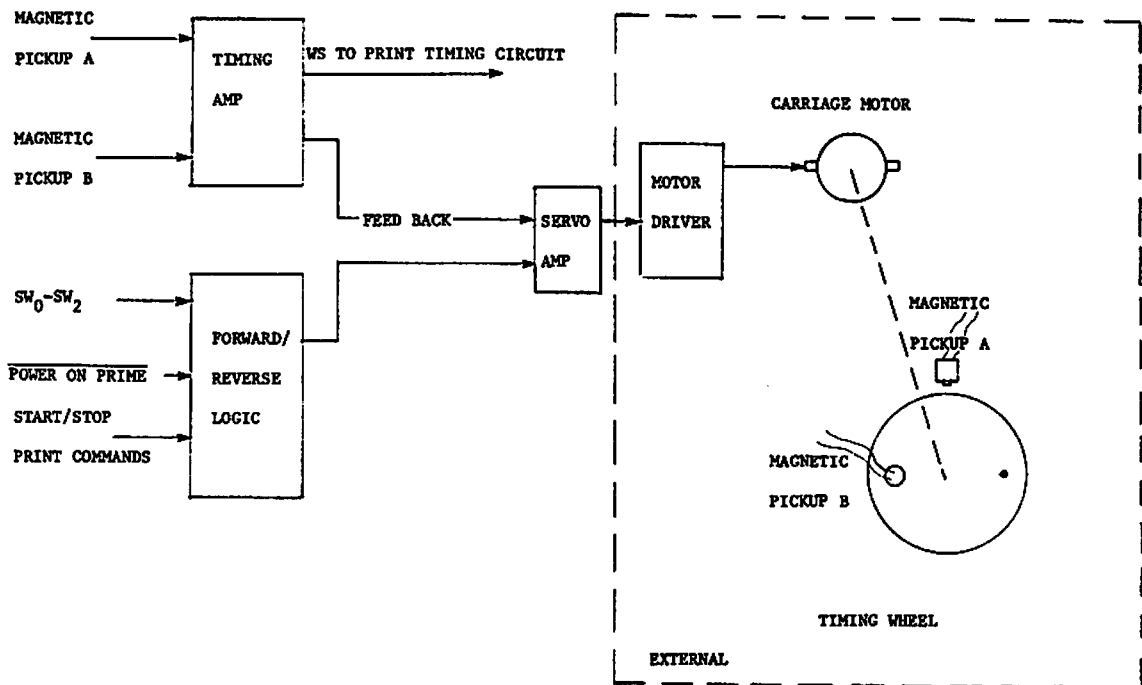

FIGURE 4-2 CARRIAGE MOVEMENT
4.2.1 CARRIAGE MOVEMENT (Figure 4-2)